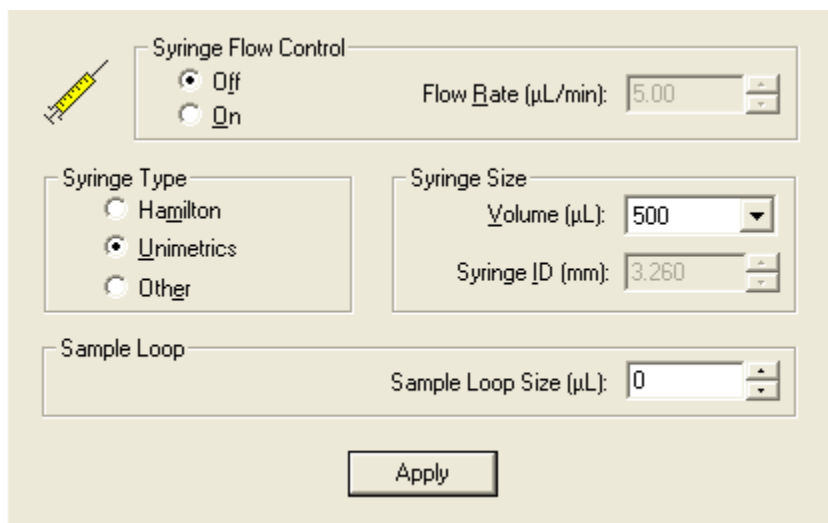

Figure 7-6. Syringe Pump and Sample Loop view, showing auto loop injection setup
- a. Choose **Setup > Syringe Pump & Sample Loop** to display the Syringe Pump and Sample Loop view in the top right corner of the workspace. See Figure 7-6.